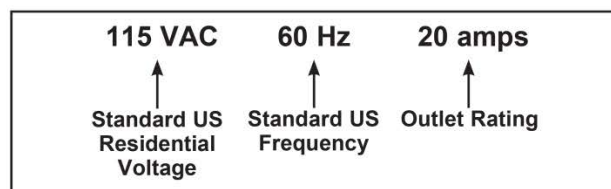
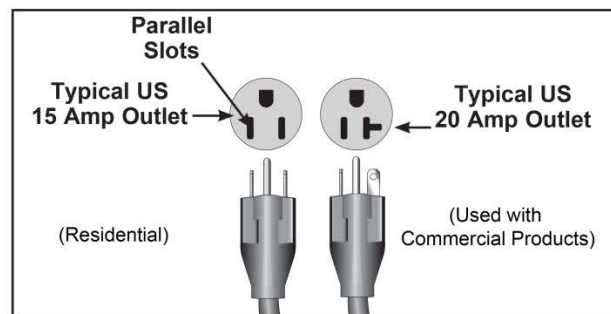

Figure 1
Figure 2
- TRUE's recommendation is to leave a 39" (0.9m) safety zone at rear of lateral trainer. The sides of the unit should be at least 24" (0.6m) away from the wall or obstructions. (See Fig 1)
For example, in the United States some TRUE treadmills require a circuit rated 115 VAC, 60 Hz and 20 amps. See Figure 1. However, a home typically has 15 amp outlets. In this case, contact an electrician to install a 20 amp dedicated line prior to use. See Figure 2.